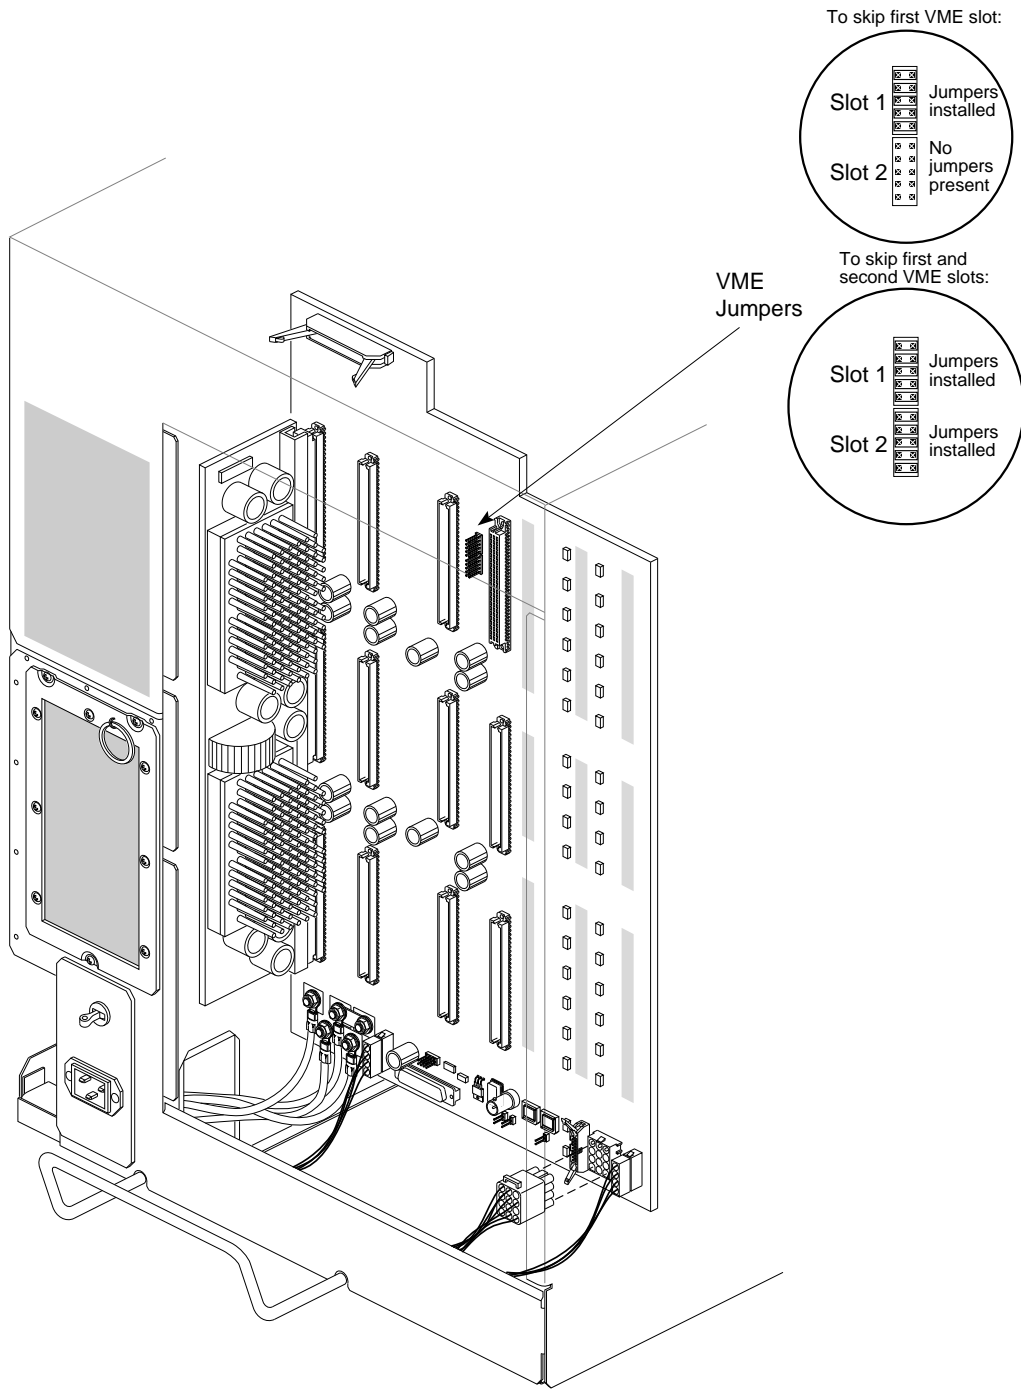

Figure 5-85 VME Slot Jumper Locations
Skipping a slot is occasionally required to fit oversized VME boards or improve air flow. A slot can be skipped if jumper blocks are placed on the appropriate VME jumper block pins located on the rear of the backplane (see Figure 5-85).
- If you are skipping the first VME slot (that is, slot 5 in an Onyx or slot 7 in a CHALLENGE system) to use the next VME slot, you must place five jumpers in the jumper bank, designated as slot 1 (see Figure 5-85).